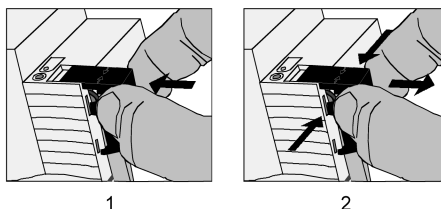

Figure 7: Installing / removing the protective cap for the bus connection
- To install the cap: slide the cap over the bus connecting terminal until you feel it engage (Figure 7).
- To remove the cap: Remove the cap by pressing the sides slightly and by pulling it out to the front (Figure 7).